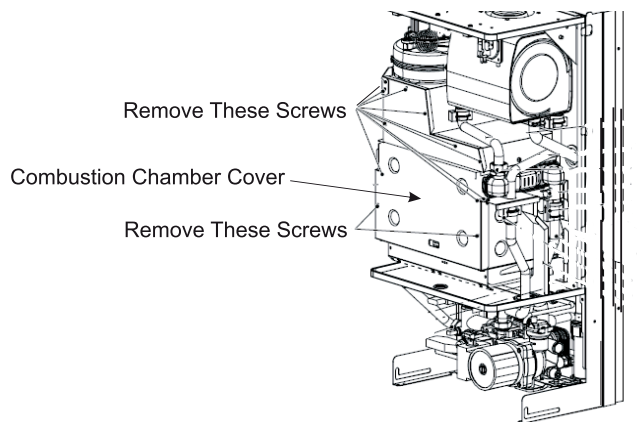

Figure 14.1: Removing Combustion Chamber Cover
- c) Access the combustion chamber. To do this remove the front and side jacket panels as shown in Figure 11.1 Remove the inner cover as shown in Figure 12.5. Remove the Combustion Chamber cover as shown in Figure 14.1.
- Do not attempt to fire this boiler with the Combustion Chamber Cover (Fig. 14.1) removed